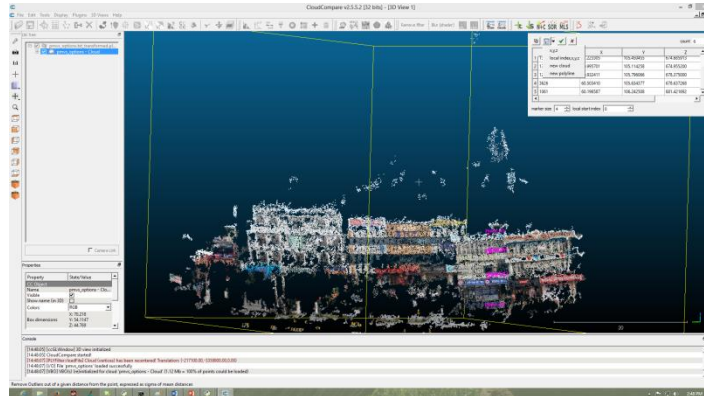

Fig 17: Saving the selected points
- Click on the save button in the coordinates window and select the xyz option (See Fig 17). Create a new folder (inside project folder or in desired location) and save the file by the name 'x.txt' in it where x is the building number. For example, for first building save it as '1.txt' inside the project folder.